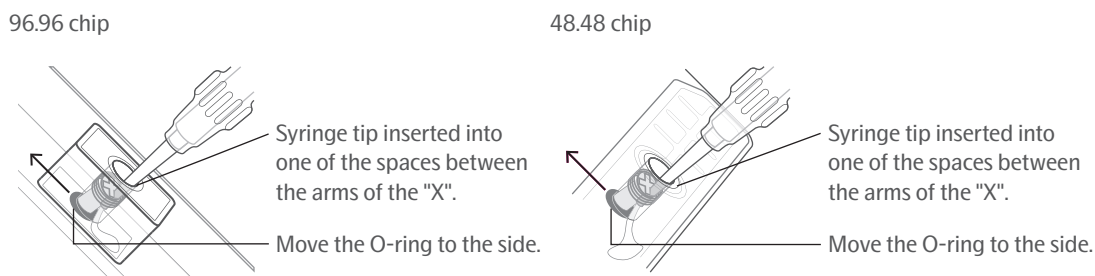

Figure 8. Injecting control line fluid into the chip
5. Insert the syringe tip into one of the spaces between the arms of the X at the top of the valve and then press down gently to move the black O-ring to the side. Visually confirm that the O-ring has moved (Figure 8).